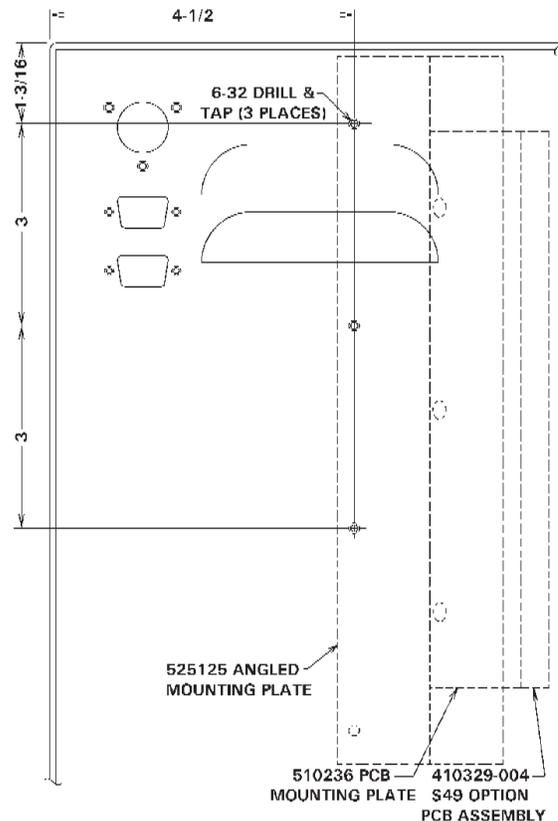

Figure 5-2. Mounting detail for
2. Drill rear panel of cabinet as indicated in Figure 5-2. Mount angled bracket (P/N 525125) using the 6-32 x 3/8 Screws, Split Lockwashers and Nuts provided. Mount the PCB Mounting Plate (A/N 510236) using three (3) of the 6-32 x 1/4 Screws and Lockwashers.
3. Mount the S49 Option PCB (A/N 410329-004) to standoffs on the PCB Mounting Plate with the J4 connector at the top, using four (4) 6-32 x 1/4 PHSMS, Phil., Brite (see Figure 5-2).